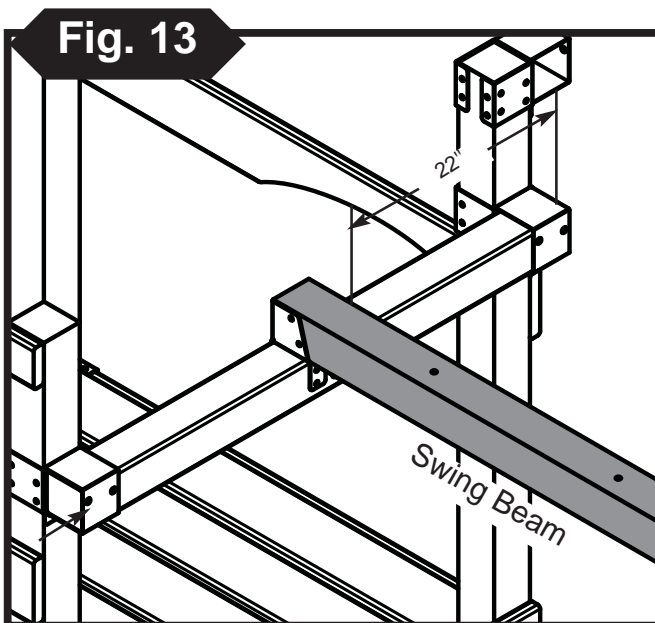

Fig. 13a
3. Secure as shown in (Fig 13a).